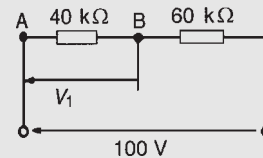

Figure 10.11
**Problem 5.** A voltmeter having a f.s.d. of 100 V and a sensitivity of  $1.6 \text{ k}\Omega/\text{V}$  is used to measure voltage  $V_1$  in the circuit of Fig. 10.11. Determine (a) the value of voltage  $V_1$  with the voltmeter not connected, and (b) the voltage indicated by the voltmeter when connected between A and B.